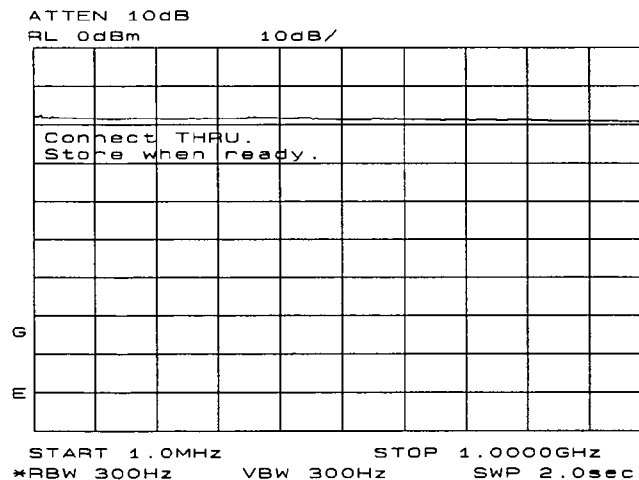
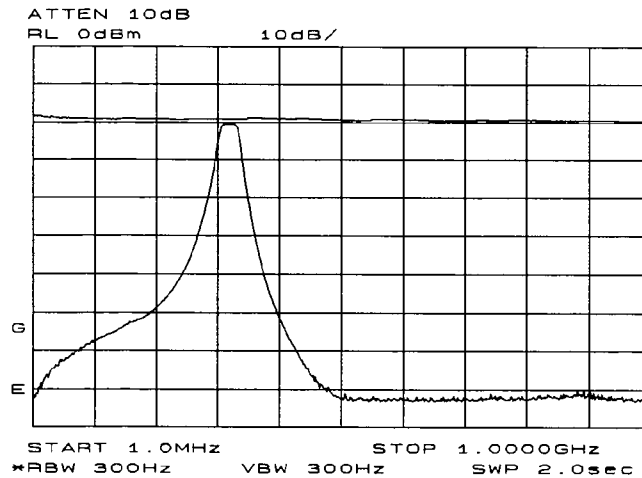

Figure 3-21. Guided calibration routines prompt the user.
Figure 3-22. The thru trace is displayed in trace B.
5. Calibration in a transmission measurement is done using a through (thru). To calibrate using a thru, press **AUX CTRL**, **TRACKING GENERATOR**, **SOURCE CAL MENU**, **CAL THRU**. The guided calibration routine prompts you to connect the thru, as illustrated in Figure 3-21. Connect the thru, and press **STORE THRU** when ready. When **STORE THRU** is pushed, the thru trace is stored into trace B and into an internal memory location in the analyzer. The state information of the thru-calibration trace is stored in state register #9. This trace can be recalled for future use. Figure 3-22 shows what appears on-screen after the thru trace is stored. Trace B is in view, depicting the thru trace.